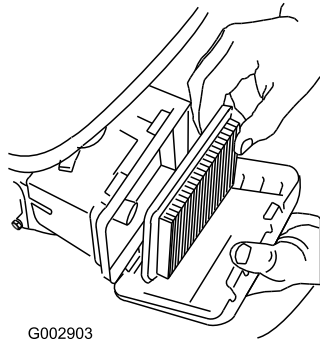

Figure 38
- Remove the air filter (Figure 38).